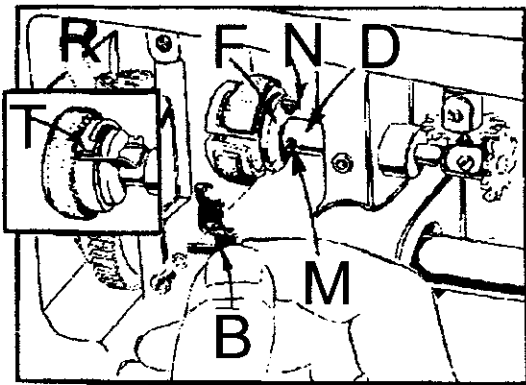

Fig. 24
10. Turn the hook oil control shaft (D, Fig. 24) until screw hole (M, Fig. 24) is accessible. Manually rotate pump disc (F, Fig. 24) so its stop pin (N, Fig. 24) is 90° above screw hole.
11. Rotate metering cup so the short slot (T, Fig. 24) is 180° from stop pin (N, Fig. 24). Now, install hook oil control finger (B, Fig. 24) by first hanging the hooked portion of finger over the stop pin and lowering to insert the projection at bottom left into the short slot of the metering cup. Tighten the finger in place by means of screw and washer, making sure the hook oil control finger does not bind or distort metering cup.